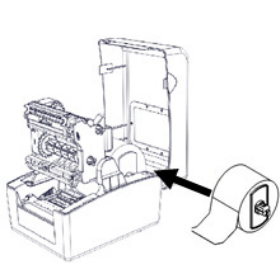
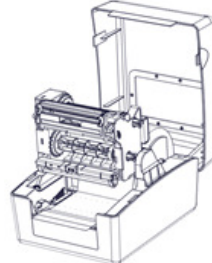
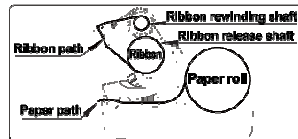

Fig. 2.2.4
Fig. 2.2.5
Fig. 2.2.6
- 4) Place the paper roll together with its holder into the paper roll cabinet (see Fig. 2.2.4), pull out the paper head and lay it flatly in the print path, and then lead the paper go through under the buffer shaft, and finally clamp the paper head with left and right paper guide blocks (see Fig. 2.2.5). The paper roll installation effect refers to Fig. 2.2.6.
- 4) Push the ribbon thumb wheel to tighten the ribbon (the ribbon installation effect refers to Fig.2.2.6);